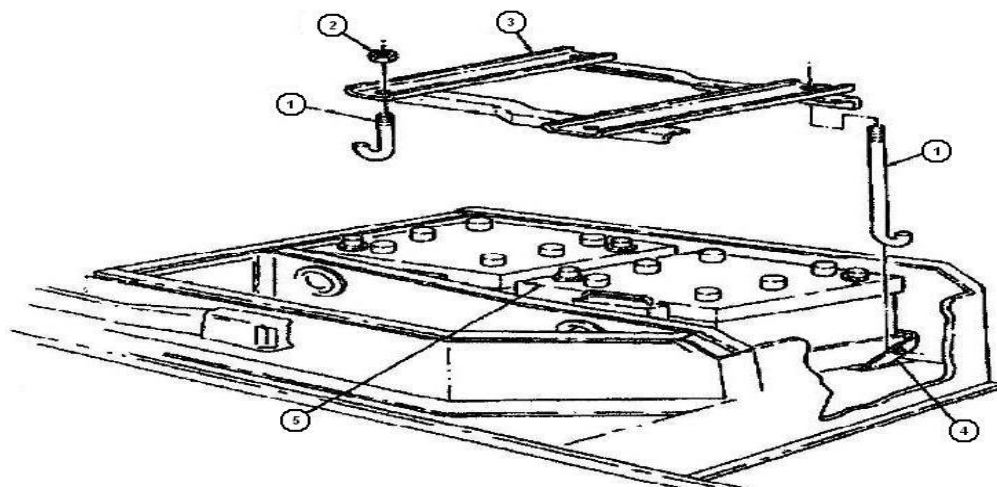

Figure 2
b. Battery Hold Down Removal. Refer to TM 9-2320-387-24-1, Chapter 4, Task Para 4-73, Page 4-126 and **Figure 2** contained in these instructions.
(1) Remove four nuts (2), from battery hold down bracket (3), and four hold down rods (1) from batteries (5) and brackets (4).
(2) Remove batteries from the vehicle.